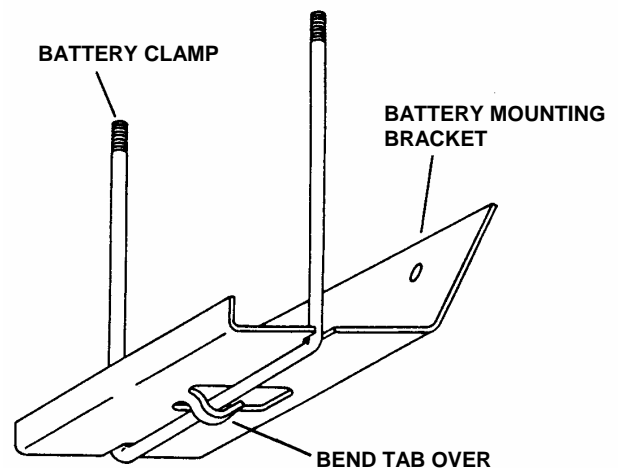

FIGURE 4
STEP 4: Remove battery mounting bracket and battery clamp from #6-0651 Battery Mounting Kit and assemble these parts as shown. See Figure 4.